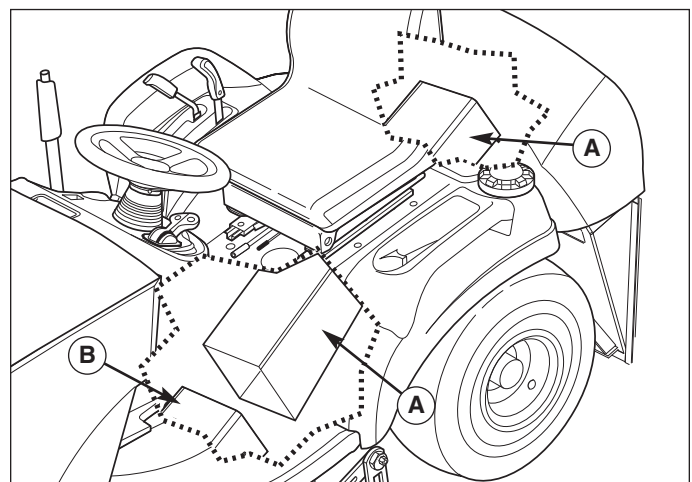

Figure 9. Discharge Tube
7. Push the discharger tube (A, Figure 9) toward the back to separate it from the mower discharge opening (B).
4. See Figure 9. Slide the discharge tube onto the mower discharge opening.